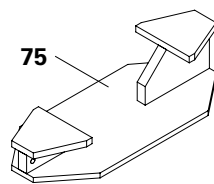

Fig. A9.05
The Foundation Strap (75) is used for forming individual foundations using the "windmill configuration". (Fig. A9.05)